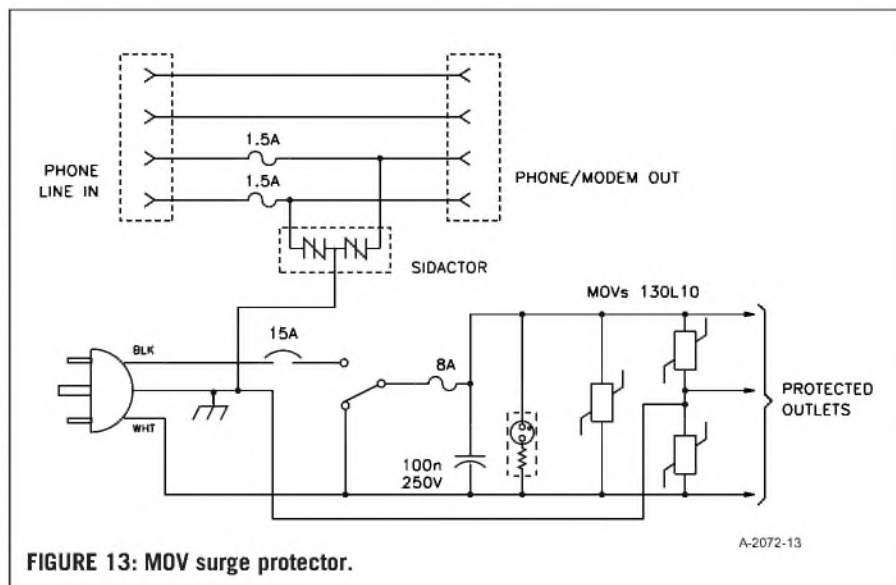

FIGURE 13: MOV surge protector.
*Figure 13* shows the schematic of my surge protector. Most consumer surge protectors, including this one, use bidirectional metal oxide varistors (MOV). It has a 15A thermal circuit breaker and an 8A non-replaceable fuse. The 100nF
MOVs also have an inherent wear-out mechanism. Many small impulses, or one large one, will cause degradation in the metal-oxide material. The breakdown voltage decreases and the reverse leakage current increases, which eventually leads to failure. The MOV can then overheat and even burst into flame, so a properly-sized series fuse (Fig. 13) should always be part of a surge protector.